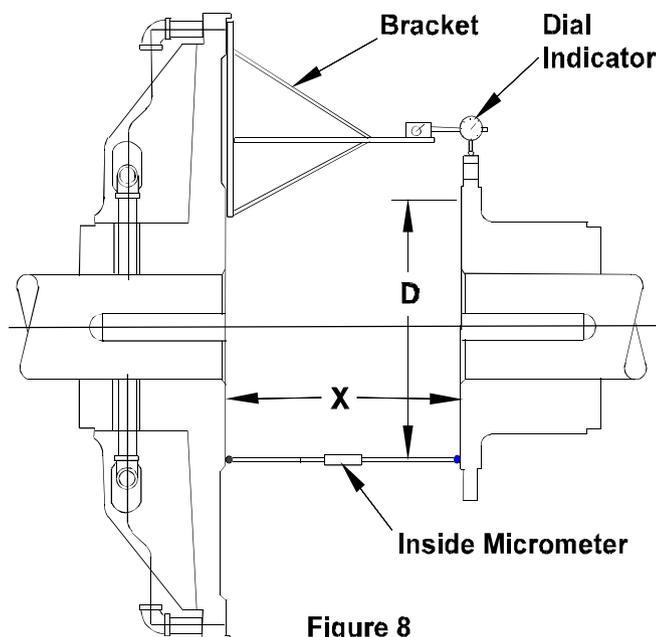

Figure 8
TABLE 2 - “X” DIMENSIONS (FIG. 8)
Not to be exceeded 0.0005 inch per inch (.0005mm/mm) diameter at which readings are taken (“D” on Fig. 8).
- 2.4.1 Foundations must be set so distance “X”, shown in Figure 8, is established. If the clutch is mounted on a shaft having plain bearings, make sure the shaft is centered within the bearings when establishing the “X” dimension. Refer to Table 2 for appropriate “X” dimensions.
- 2.4.2. Fabricate a rigid bracket for supporting a dial indicator and attach to the spider. See Figure 8.